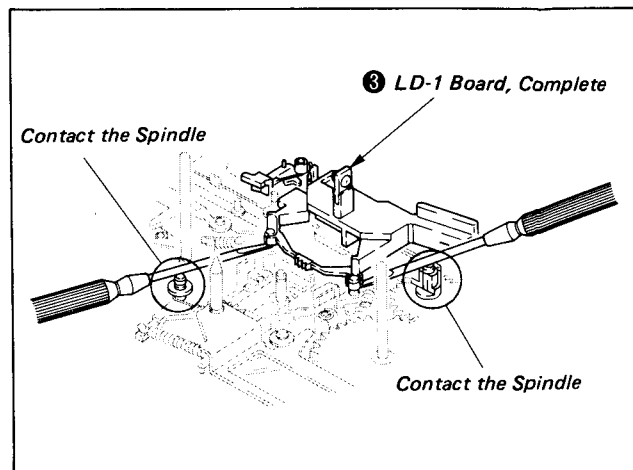
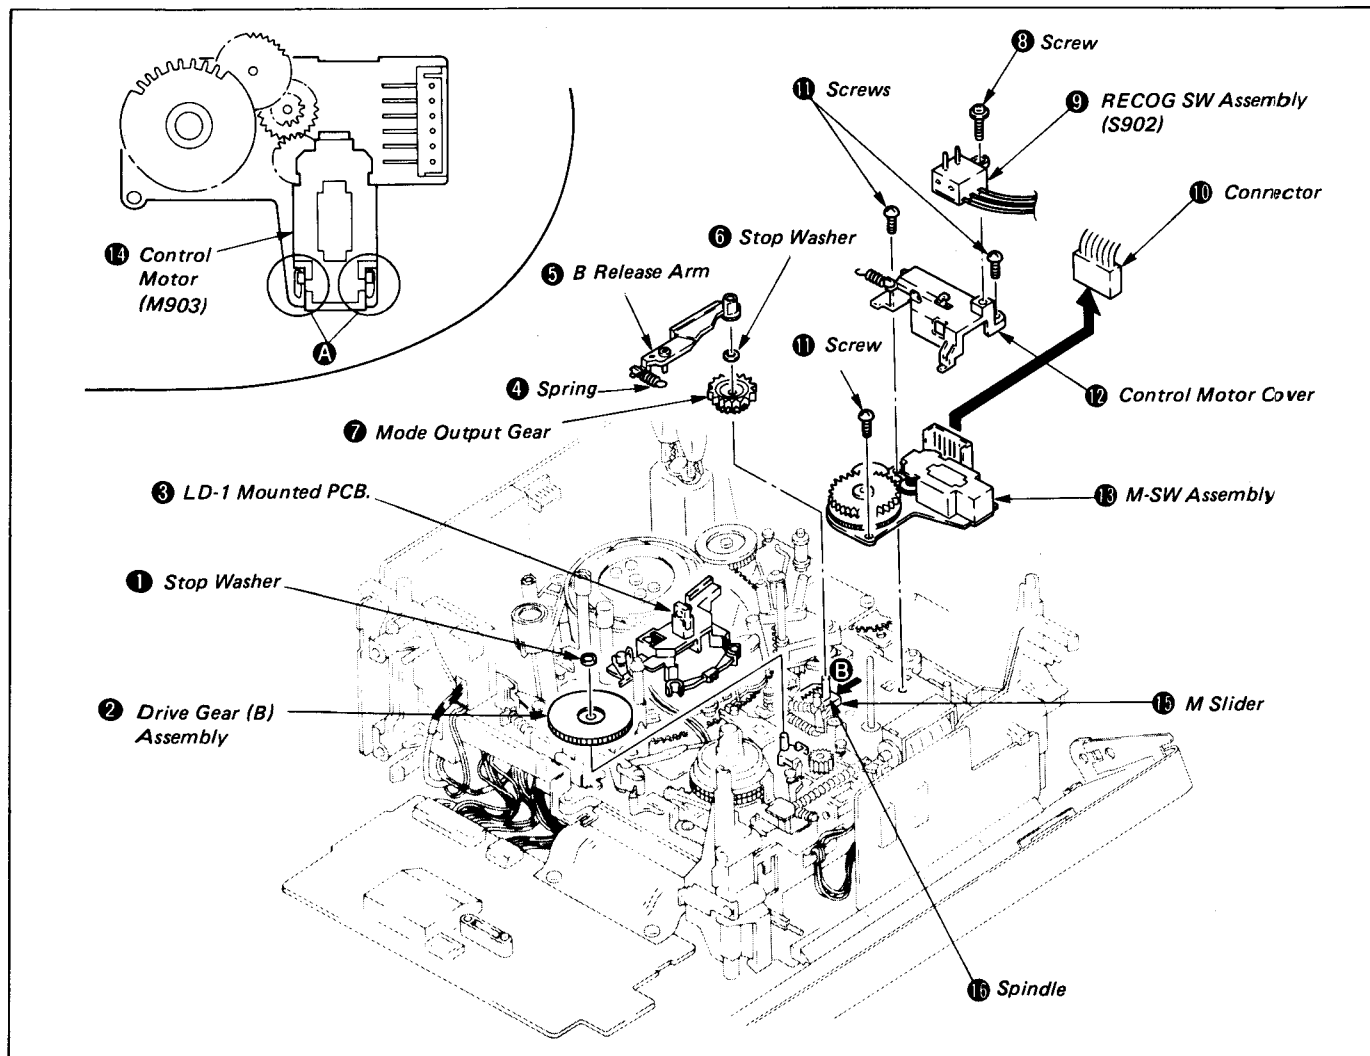

Fig. 1-40
Fig. 1-41
- 3) Remove the stop washer ❶ and drive gear (B) assembly ❷.
- 4) Remove the complete LD-1 board ❸. (See Fig. 1-40.)
- 6) Remove the spring ❹ and B release arm assembly ❺.
- 8) Remove the stop washer ❻ and mode output gear ❼.
- 9) Remove the screw ❽ and RECOG SW assembly (S902) ❾.
- 10) Disconnect the connector ❿.
- 12) Remove solder A and the control motor (M903) ⓮. (See Fig. 1-41.)
- 1) Resolder the control motor (M903) ⑭ .
- 2) Remount the M-SW assembly ⑬ and control motor cover ⑫ and tighten three screws ⑪ .
- 3) Reconnect the connector ⑩ .
- 4) Remount RECOG SW assembly (S902) ⑨ and tighten the screw ⑧ .
- 6) Check that the M slider ⑮ is moved toward the arrow **B** fully.
- 7) Oil half a drop of oil on the spindle ⑯ . (See Fig. 1-41.)
- 9) Refit the stop washer ⑥ .
- 11) Remount the B release arm assembly ⑤ and rehook the spring ④ .
- 13) Remount the complete LD-1 board ③ .
- 14) Remount the drive gear (B) assembly ② and refit the stop washer ① . (See Fig. 1-41.)